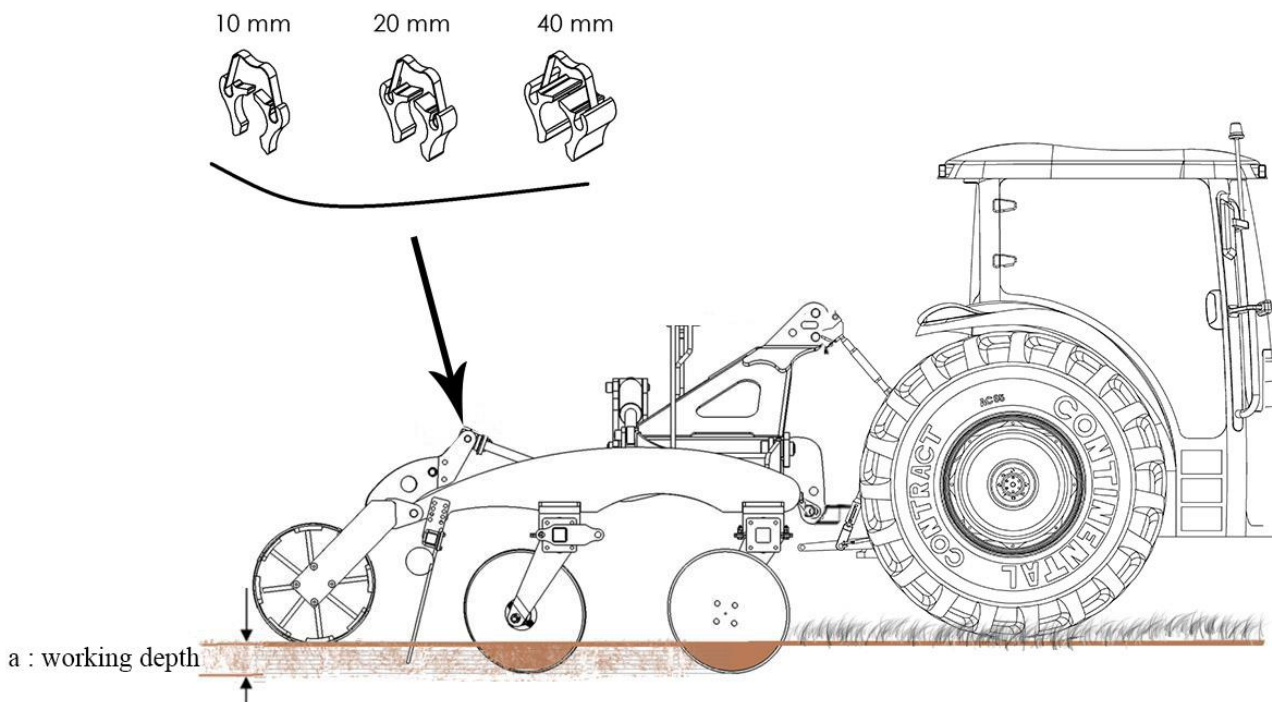

FIGURE 5
- The working depth (a) is adjusted at the roller depth hydraulic cylinder (A) (Figure 5.b)